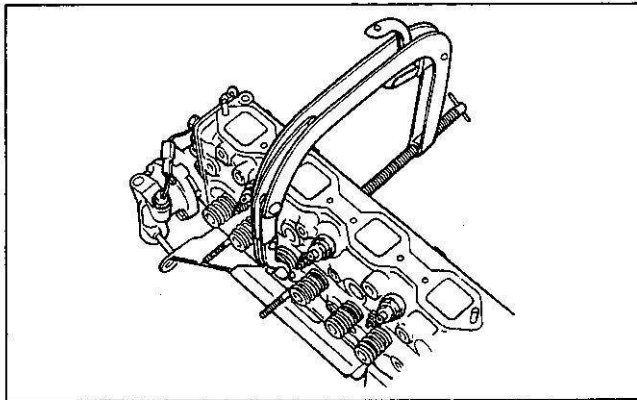

Figure 29. Compressing Valve Spring
4. Compress valve spring with spring compressor tool (figure 29) and remove split collars (71).
5. Valve spring (68,69) and valve seats (70).
6. Spring seat (67).
8. Valve seal (75). Seal fits over valve guide and is retained with a spring (74).